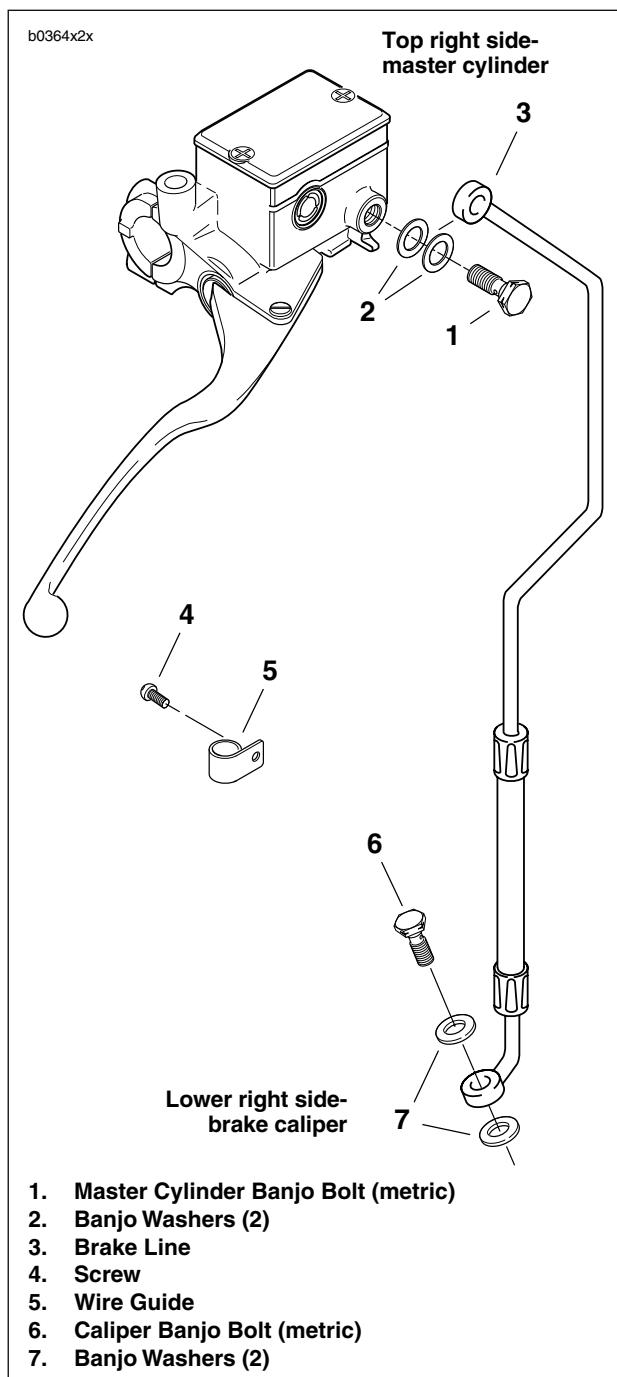

Figure 2-34. Front Brake Line
2. See Figure 2-34. Remove screw (4) to detach brake line clamp (5) from right side of lower triple clamp.
1. See Figure 2-34. Connect brake line to master cylinder using two **new** banjo washers (2) and banjo bolt (1) (metric). Loosely install bolt into master cylinder.
2. From the master cylinder, the brake line runs downward in front of the right handlebar, where it turns inboard at the upper triple clamp. Loosely install clamp (5) with screw (4) to attach front brake line to right side of lower triple clamp.
3. Connect brake line to caliper using two **new** banjo washers (7) and banjo bolt (6) (metric). Tighten banjo bolt (6) to 16-20 ft-lbs (22-27 Nm).
4. Tighten clamp screw (4) on lower triple clamp to 30-35 in-lbs (3.4-4.0 Nm).
5. Tighten master cylinder banjo bolt (1) (metric) to 16-20 ft-lbs (22-27 Nm).